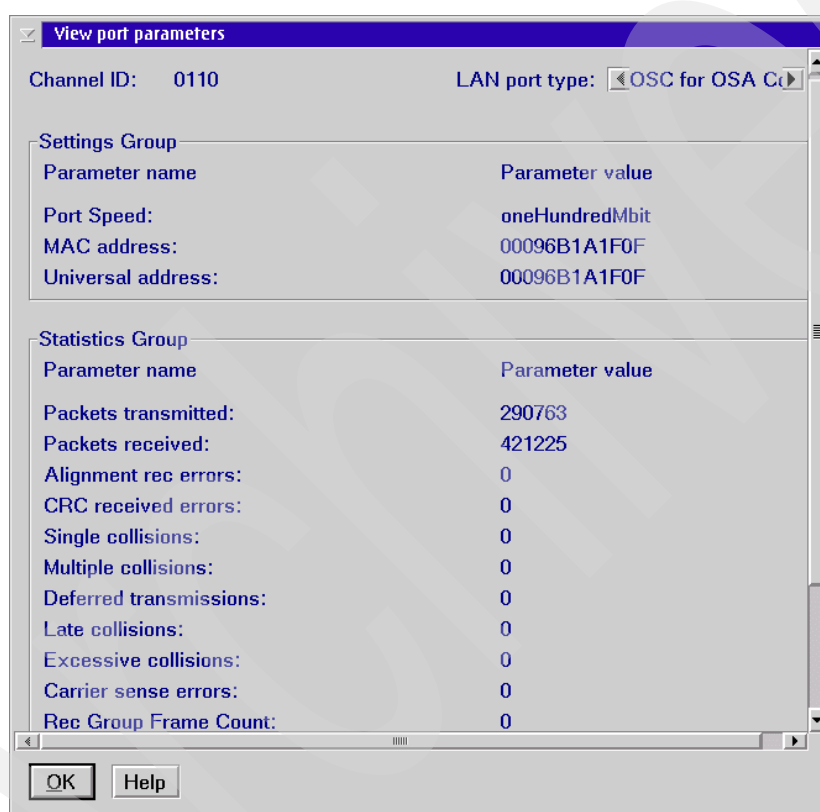

Figure 4-5 View port parameters part 1
2. The view Port Parameters panel is displayed (see Figure 4-5).